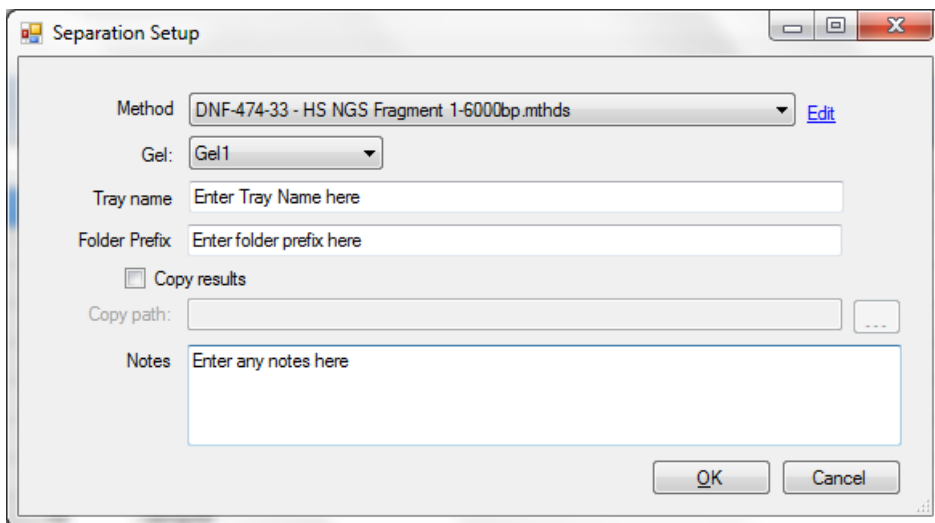

Figure 4. **Separation Setup** form to select experimental Method and enter tray/folder information
- After sample information for the row or plate has been entered, under the **Run Selected Row** field press **Add to queue**. The **Separation Setup** form will be displayed enabling the user to select the experimental method and enter additional information (Figure 4).
11. On 96-capillary systems, or in 12-capillary systems if the entire 96-well sample tray is to be run using the same experimental method, under the **Run Entire Tray** field press **Add to queue**. A form similar to Figure 4 will be displayed for entering information and adding the run to the instrument queue for the entire 96-well sample tray.
2. Administrator level operators can **Edit** certain steps of the experimental method. To open the method editor screen, press the **Edit** link from the **Separation Setup** screen (Figure 4). The method editor screen is displayed, showing the steps of the method (Figure 6).